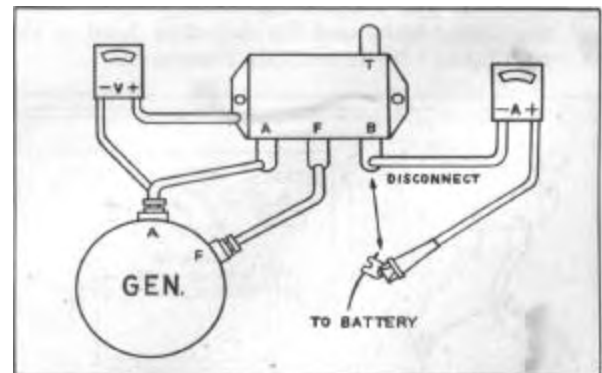

FIGURE 24
1. Disconnect the battery wire at the voltage regulator "B" terminal and connect the ammeter between the voltage regulator "B" terminal and the wire disconnected, Figure 24.